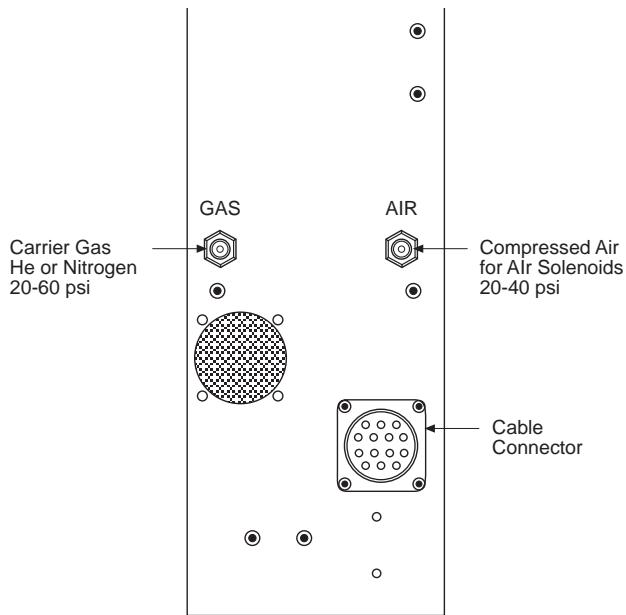

Figure 2-7 – Schematic showing the location of the gas inlets on the rear of the Desorption Unit.
18. The back of the Desorption Unit has two 1/8" Swagelok™ fittings for connection of the carrier gas and the air that is used to operate the TD-5 system. They are labeled AIR and GAS. Figure 2-7. Connect the free end of the Teflon™ tubing from the carrier gas solenoid valve assembly to the "GAS" fitting on the back of the Desorption Unit. Be sure that the tubing is fully seated in the fitting and then tighten 3/4 turn past finger tight.